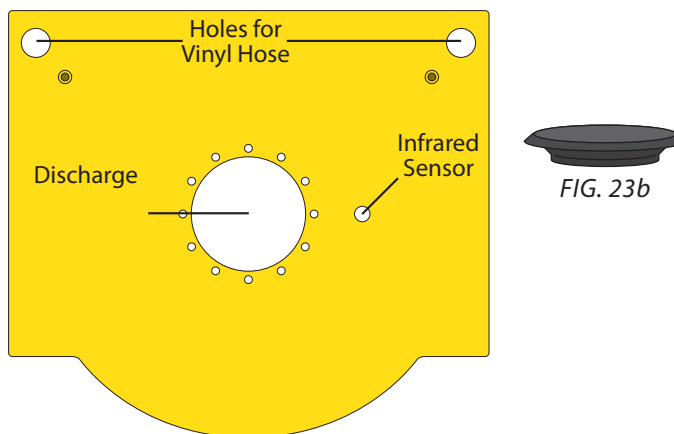

FIG. 23a
Install the Dust Sentry's (I) infrared sensor to the pre-cut hole on the Mounting Bracket (F). [FIG. 23a].